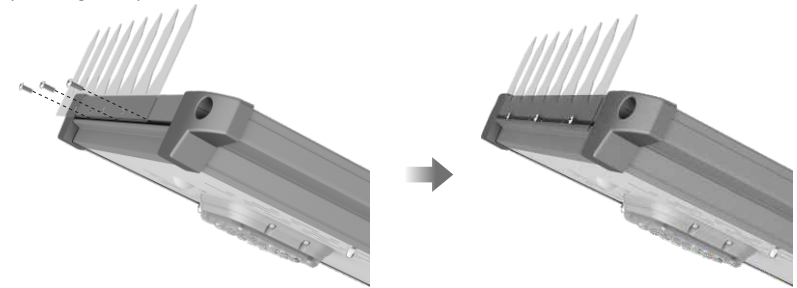

Figure 3
- 2 **Bird spike:** Use 3 self-tapping screws to fix the bird spike along the rim of the top of the light. (See Figure 3)